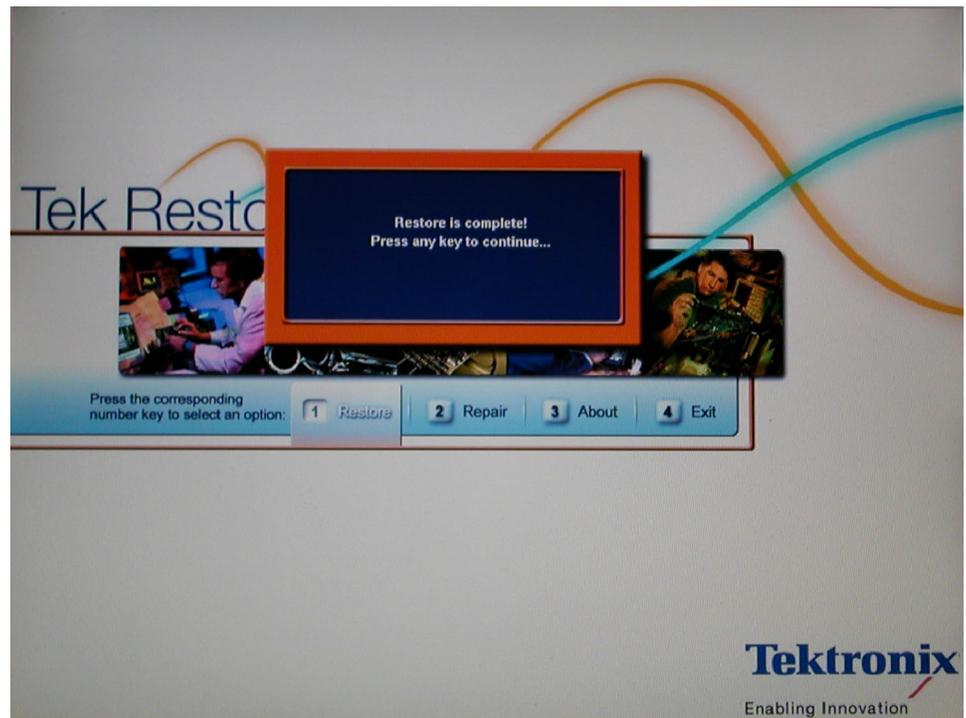

Figure 12: Restore Complete
4. When the system restore is complete, press any key and then press the “4” key, see Figure 12.